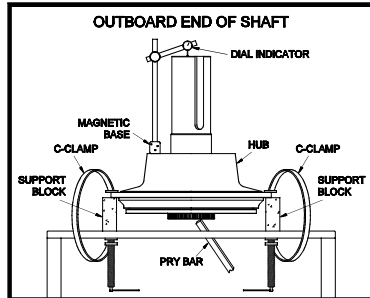

Figure 6.4.1—Setting Axial Bearing Clearance
19. Support hub and affix to work table with the shaft not touching the table; reference Figure 6.4.1.
1. Support housing to allow the shaft to rotate freely; **reference Figure 6.4.1.**
2. Affix the hub to the support table with C-Clamps or bolting to table; **reference Figure 6.4.1.**
5. Affix the magnetic base of the dial indicator to a flat area of the housing; **reference Figure 6.4.1.**
8. With a pry bar, push the inboard end of the shaft up; **reference Figure 6.4.1.**